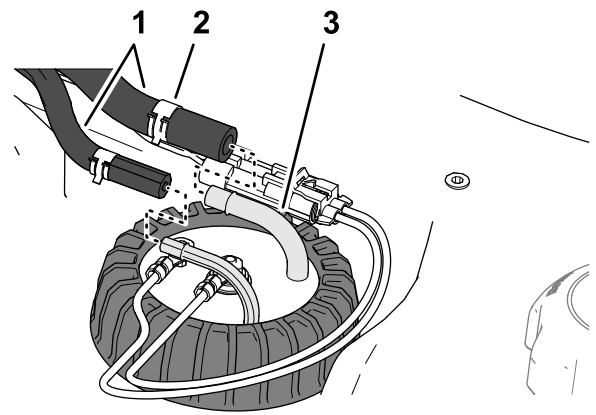

Figure 93
5. Assemble the hose onto the fittings of the fuel sender, and secure the hoses to the fittings with the clamps (Figure 93).